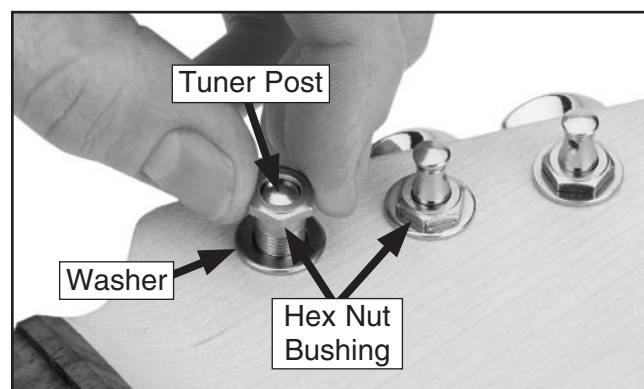

Figure 12. Threading hex nut bushing onto tuner.
2. Slide a washer over the tuner post and screw the hex nut bushing onto the tuner as shown in **Figure 12**.